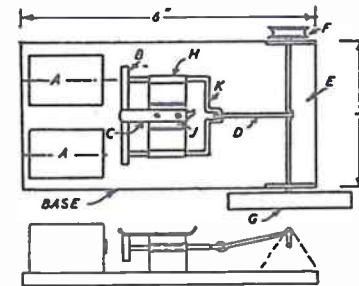

Fig. 1
Layout of the complete motor is detailed in Fig. 1. Two electro-magnetic coils (A and A) attract an armature of soft iron (B) when energised with current. This armature is mounted on a slide assembly (H) permitting it to move horizontally. This slide is linked by a connecting rod (D) to a crank on the drive shaft of the motor, this shaft being mounted in a suitable trunnion